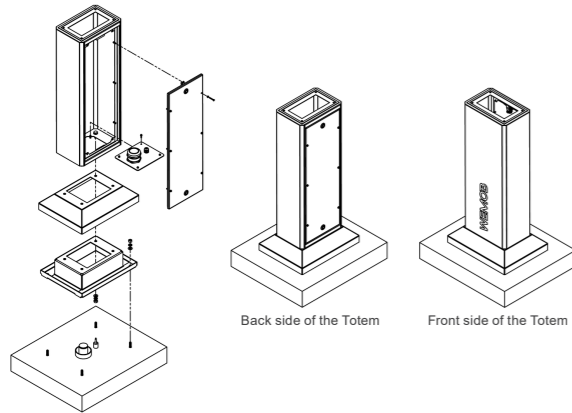

Figure 4.9: Exploded view of the assembly
The mounting of the totem to the product's base is shown in Figure 4.9, using four (04) M10 hex screws provided with the product. The recommended tightening torque is 35 Nm.